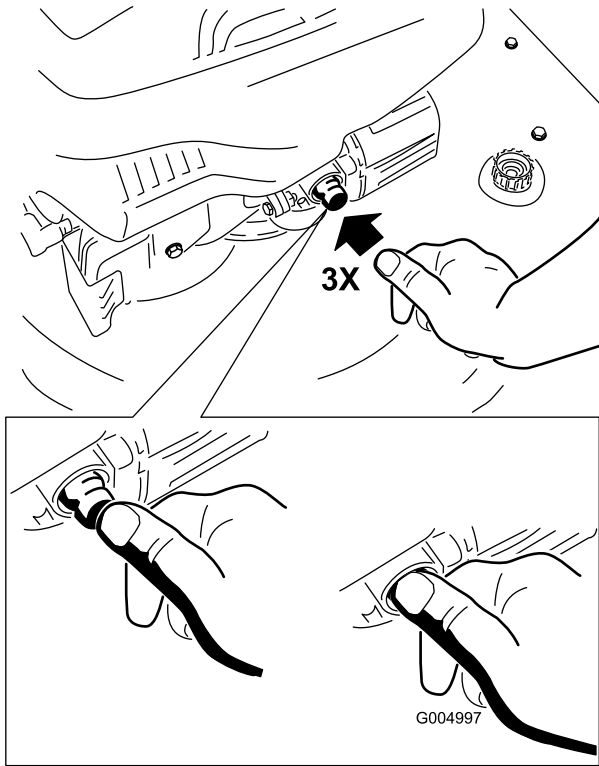

Figure 11
1. Firmly push in the primer 3 times with your thumb, holding the primer in for a second before releasing it each time (Figure 11).